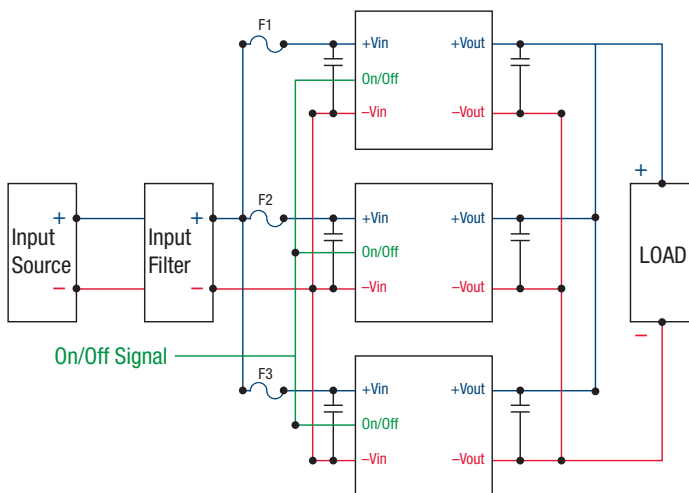

Figure 2. Load Sharing Block Diagram
Two or more converters may be connected in parallel at both the input and output terminals to support higher output current (total power, see figure 2) or to improve reliability due to the reduced stress that results when the modules are operating below their rated limits. For applications requiring current share, follow the guidelines below. See specification table for Output Voltage set points. The stated output voltage set point is trimmed to a very narrow range ( $11.7V \pm 10mV @ 48Vin, 50\%$  load). The output voltage will decrease when the load current is increased. Our goal is to have each converter contribute nearly identical current into the output load under all input, environmental and load conditions.
- It is required to use a common Remote On/Off logic control signal to turn on modules (see figure 2).